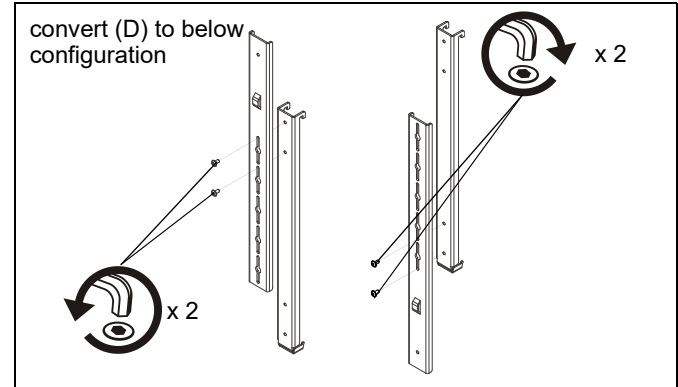

Figure 2
**NOTE:** If installing below, disassemble macro height-adjustment brackets (D) and reassemble by rotating attachment section of bracket. (See Figure 2)